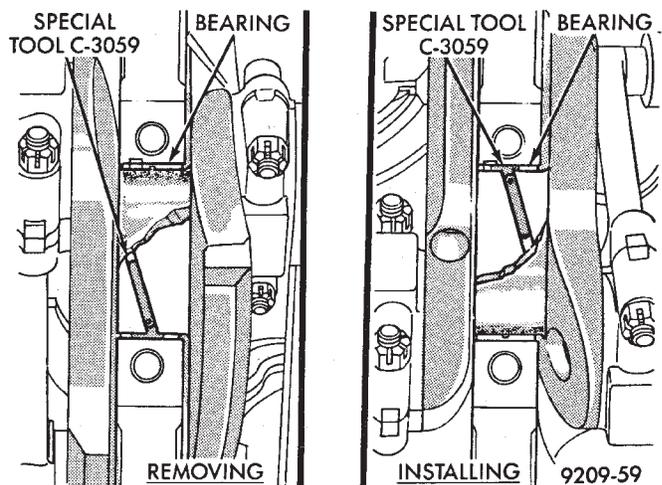

Fig. 3 Removing and Installing Upper Main Bearing With Special Tool C-3059
(1) Remove oil pan and identify bearing caps before removal.
(2) Remove bearing caps one at a time. Remove upper half of bearing by inserting Special Main Bearing Tool C-3059 (Fig. 3) into the oil hole of crankshaft.
(3) Slowly rotate crankshaft clockwise, forcing out upper half of bearing shell.
(1) Start bearing in place, and insert Main Bearing Tool C-3059 into oil hole of crankshaft (Fig. 3).
(2) Slowly rotate crankshaft counter-clockwise sliding the bearing into position. Remove Special Main Bearing Tool C-3059.
(3) Install each main cap and tighten bolts finger tight.
(4) Tighten number 1, 3 and 4 main cap bolts to 41 N·m + 1/4 Turn (30 ft. lbs. + 1/4 Turn).
(5) Rotate the crankshaft until number 6 piston is at TDC.
(6) To ensure correct thrust bearing alignment the following procedure must be done: